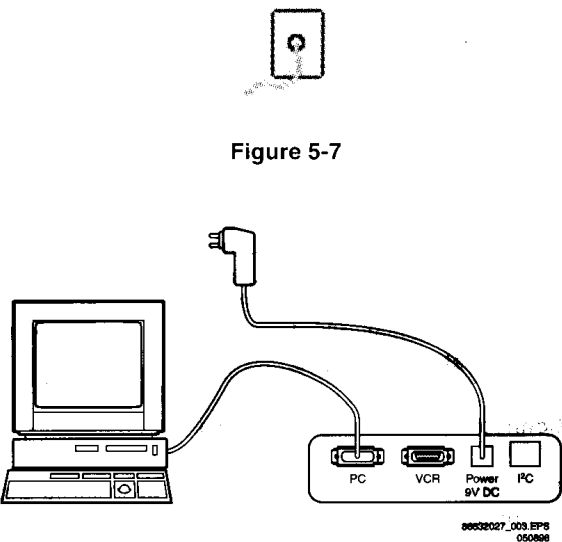

Figure 5-7
11. Click on the icon (fig 5.7) to switch ON the communication mode (the red LED on the Compair interface wil light up)